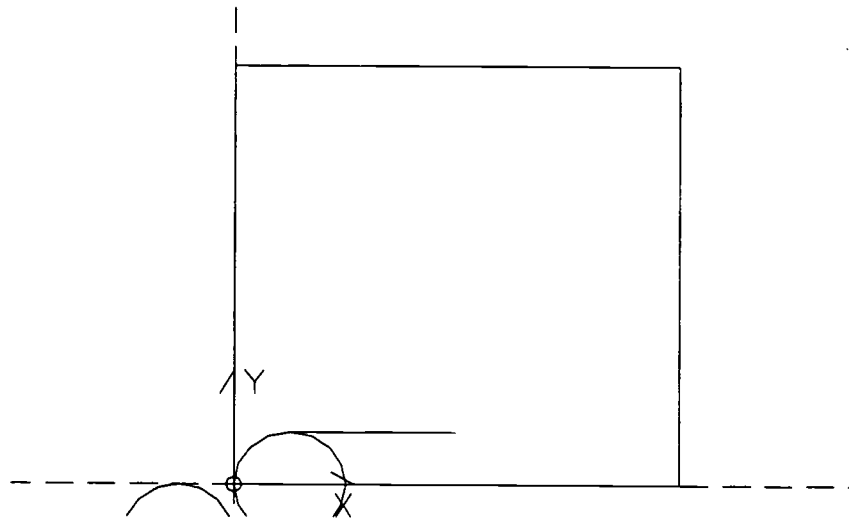

Figure 3
2. Geometry - Line. "Start Point" is X.25 Y.25, Z should be defaulted to -.25. If it isn't, you must go back to Insert to fix. "End Point" is X1 Y.25. Upon entering the Y, the line triggers. You now have figure 3.